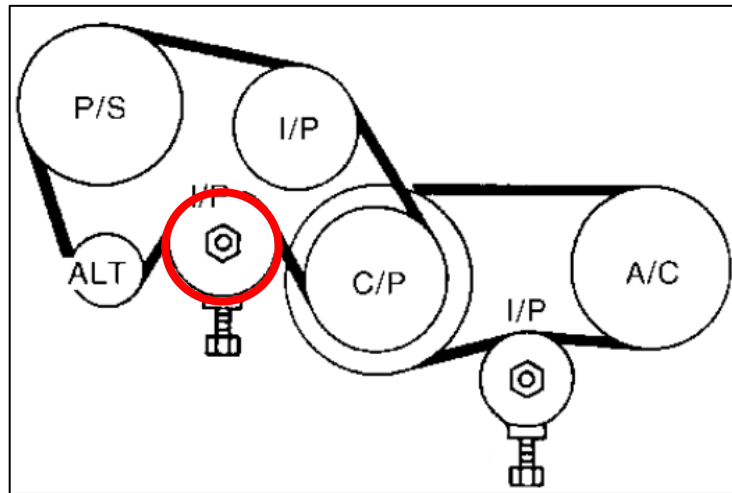

Figure 1
5. Loosen the bolt on the Tensioner Pulley from underneath the car. *Figure 1.*